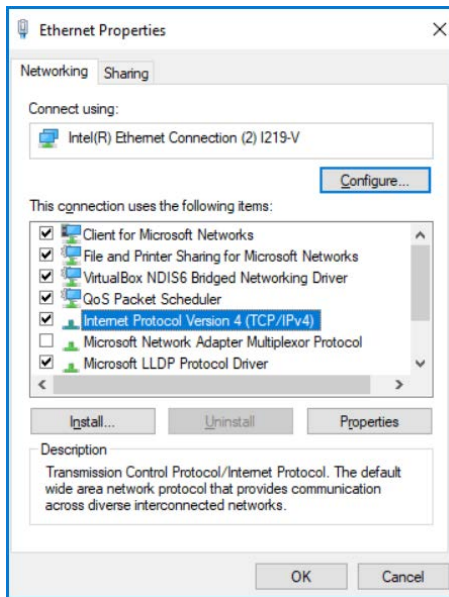

Fig. B.1 – Connection properties window in Windows OS
2) Click the icon of the connection with the right button, and select "Ethernet Properties" in the drop-down menu. The Properties window opens (see Fig. B.1).